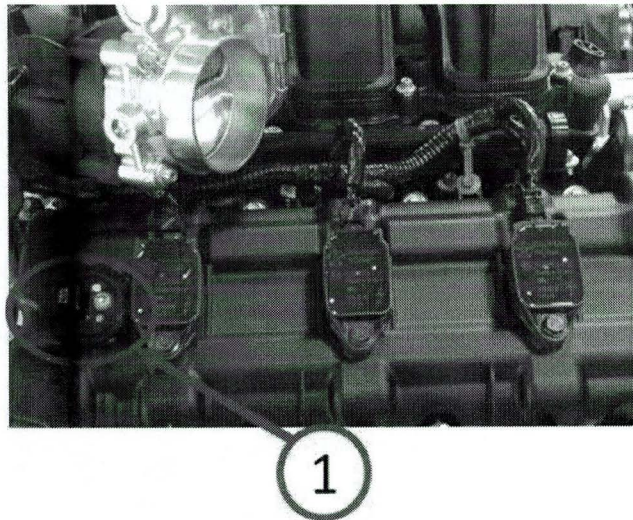

Fig. 1 Camshaft Position Sensor Location
2. Locate the Bank 1 Camshaft Position Sensor located in the top rear of the valve cover. See (Fig. 1).